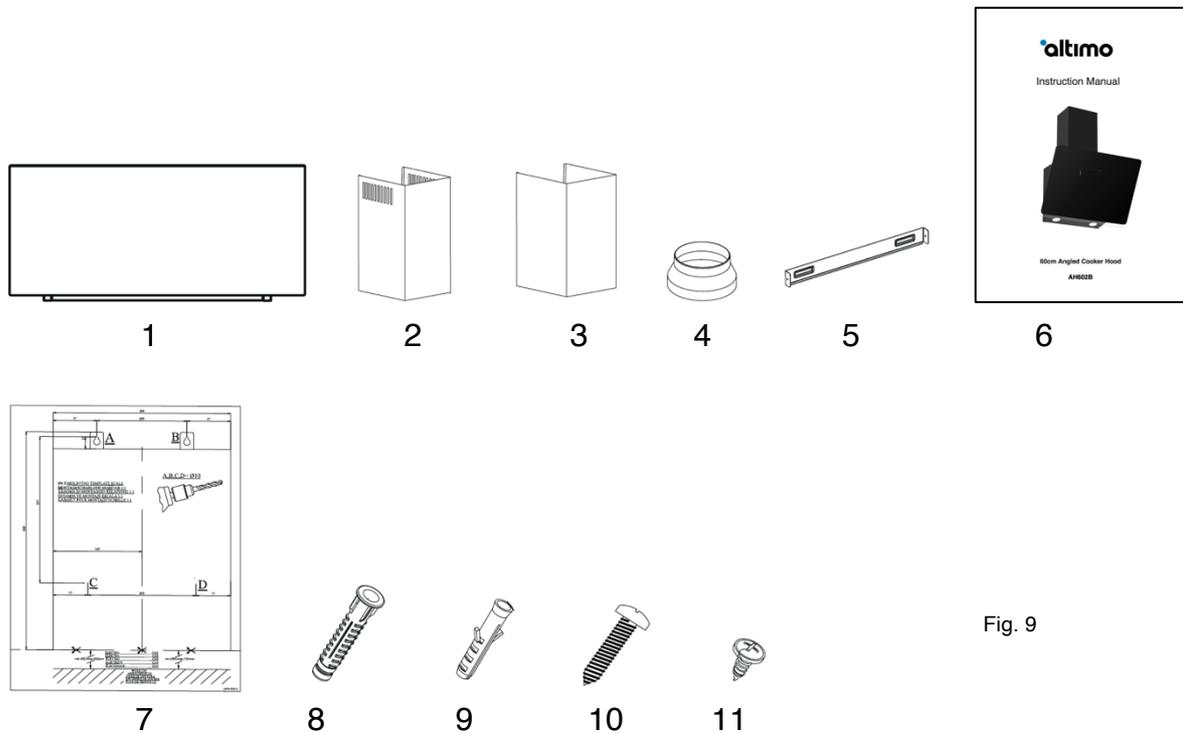

Fig. 9
1. Make sure you adhere to the minimum height requirement from electric or gas cook tops (Fig 9).